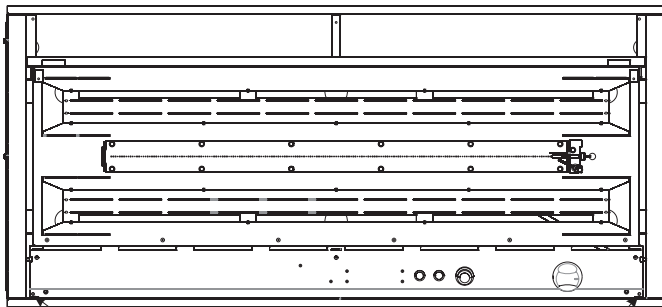

Figure 25
- e. Remove two screws from front corners of the control panel with a 5/16-inch hex head driver. **See Figure 25.**
1. After gas and electrical hookup is completed, lower and secure the burner assembly (leave two prop tools in bottom of firepit for future use) with the two screws removed in **Figure 25**.